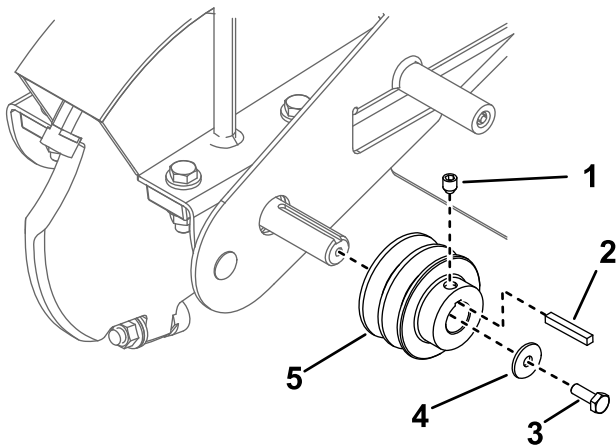

**Figure 8**
3. Install the guard plate using 2 flange bolts (5/16 x 3/4 inch), 1 carriage bolt (5/16 x 3/4 inch) and 3 locknuts (5/16 inch) as shown in Figure 8.